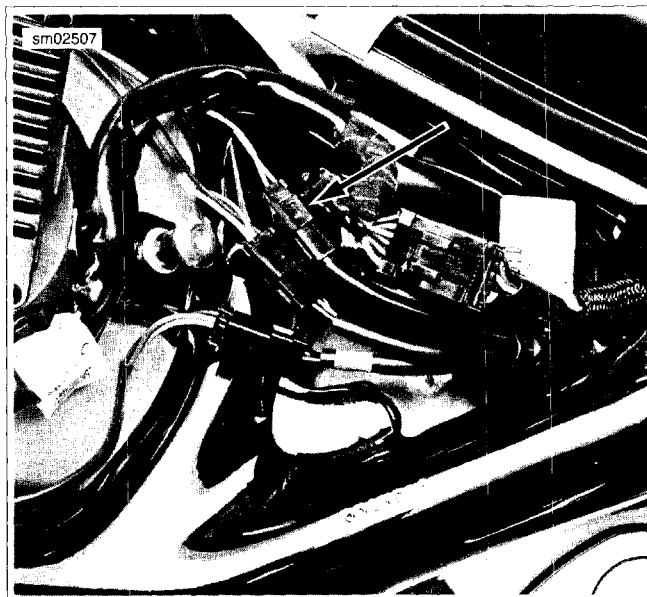
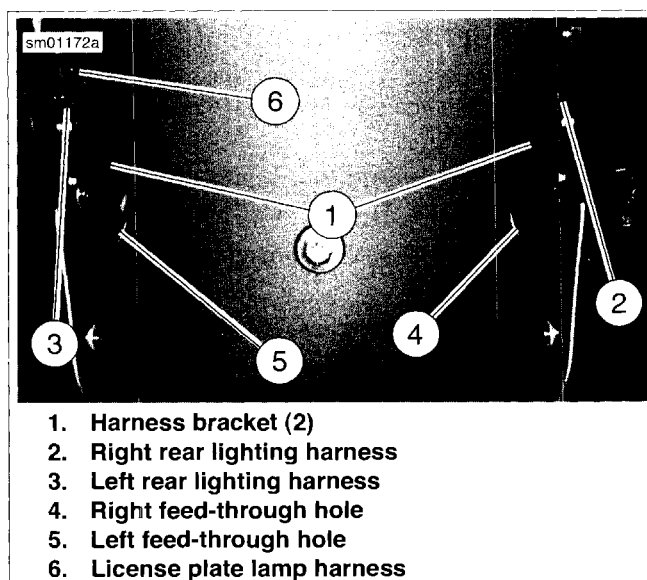
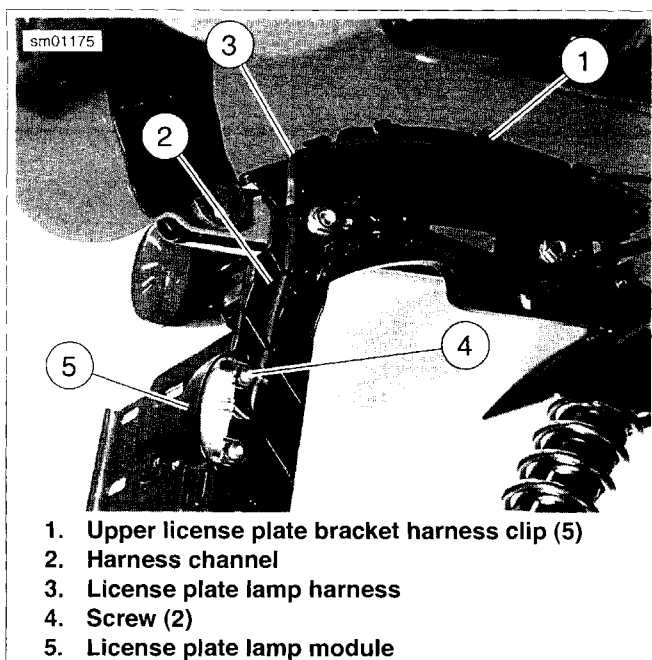

Figure 6-69. License Plate Lamp Connector [40]
Figure 6-70. Lighting Harnesses and Harness Brackets (View from Inside Rear Fender): XL 883N/XL 1200N
Figure 6-71. Removing/Installing License Plate Lamp Module: XL 883N/XL 1200N
5. See Figure 6-69. Unplug license plate lamp connector [40].
6. See Figure 6-70. Carefully pull license plate lamp harness (6) through feed-through hole (5) on left side of fender.
7. Remove license plate lamp harness from fender harness clip (1) on left side of fender.
8. See Figure 6-71. Remove license plate lamp harness (3) from upper license plate bracket harness clips (1) and harness channel (2).
9. Remove two screws (4) and license plate lamp module (5) from license plate bracket.
1. See Figure 6-71. Install **new** license plate lamp module (5) into convertible side mount license plate bracket. Secure with two screws (4).
2. Feed license plate lamp harness (3) up through harness channel (2). Insert harness into upper license plate bracket harness clips (1).
3. See Figure 6-70. Insert license plate lamp harness (6) into fender harness clip (1) on left side of fender.
4. Feed harness through feed-through hole (5) on left side of rear fender.
5. See Figure 6-69. Plug in license plate lamp connector [40].